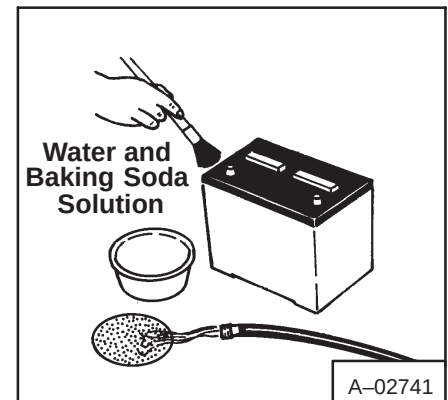

Fig. 1–28 Cleaning the Battery
1. Check the battery cables and make sure they are clean and tight. Check the water level of the battery. Remove any acid or corrosion from the battery and cables with a sodium bicarbonate and water solution (Fig. 1–28). Cover the battery terminals and cable ends with grease.